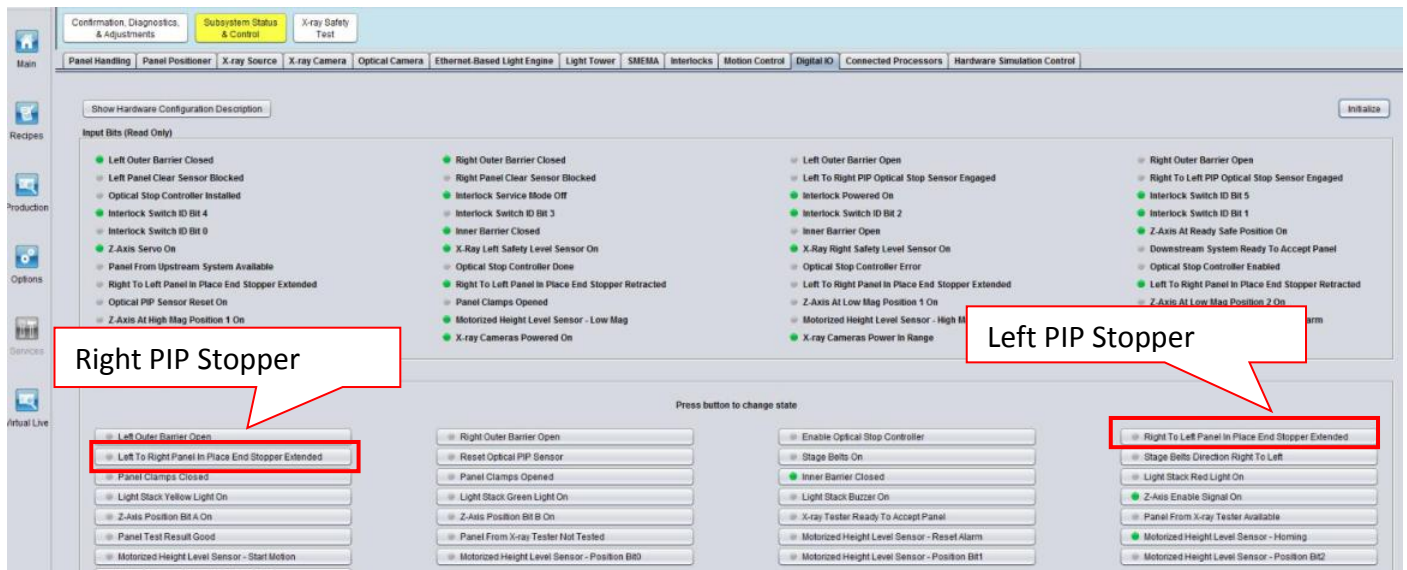

Figure 8 Digital IO
6. Manually toggle extend & retract PIP End Stopper as shown in Figure 8. Visual check PIP End Stopper where require to re-act accordingly as command toggle.